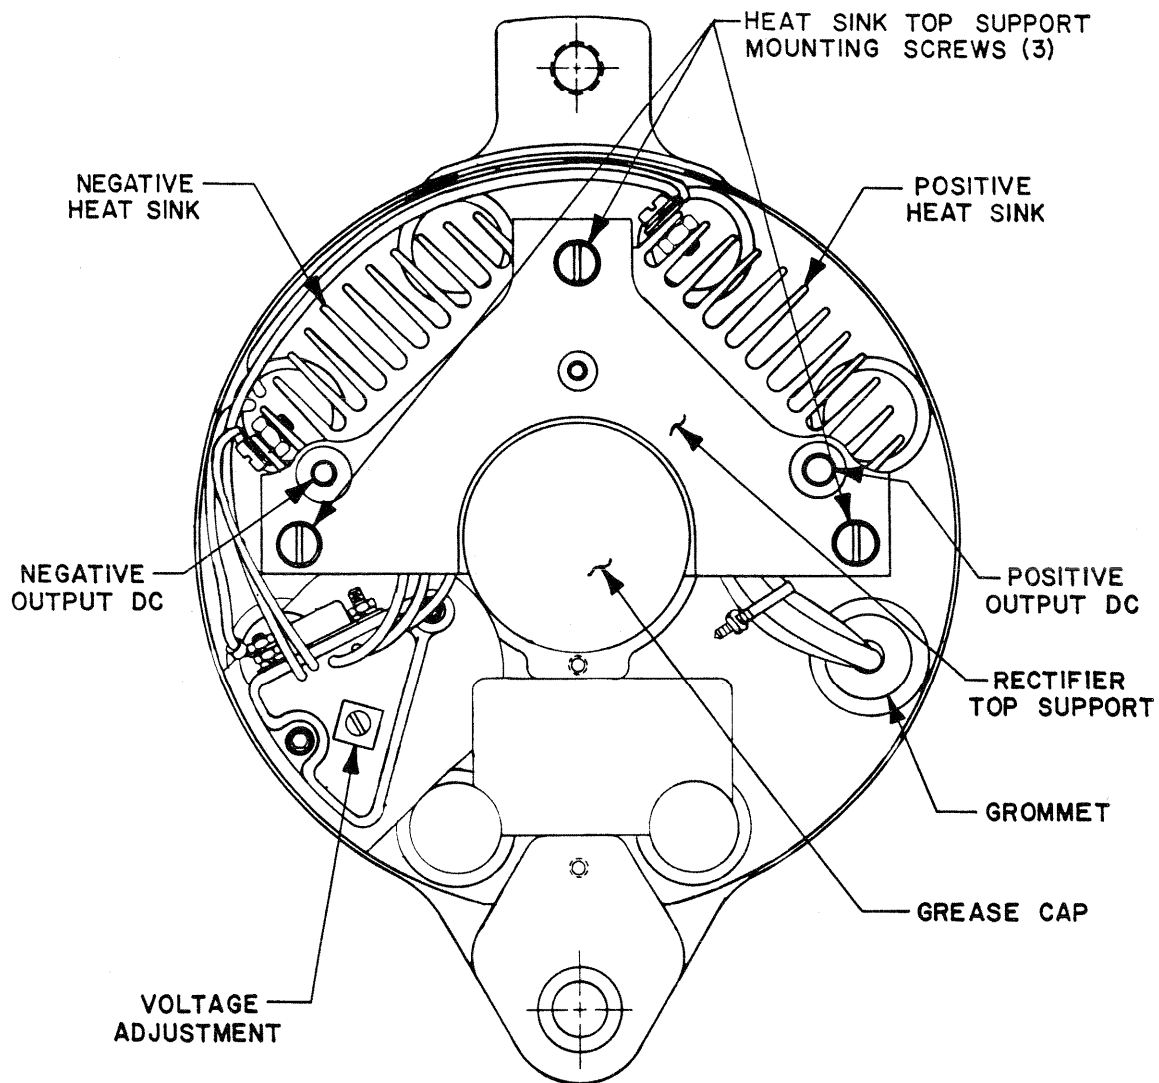

FIG. 3
B. REAR SECTION COMPONENT REMOVAL (see Fig. 3 and 4)